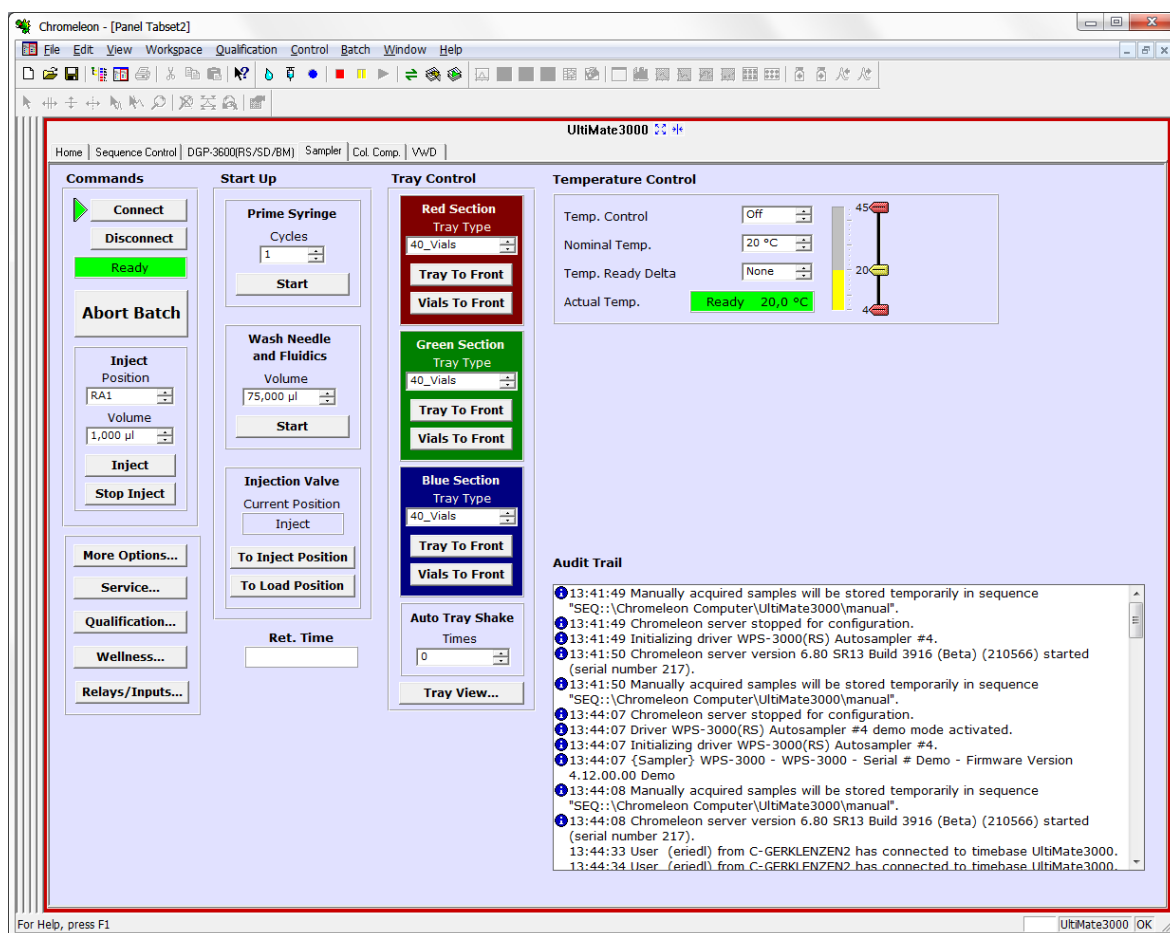

Fig. 27: Autosampler Control Panel on the Panel Tabset
Chromeleon creates centralized control panels, called panel tabsets (→ Fig. 27, page 74), for all timebases available on the Chromeleon server. A panel tabset provides control panels for the individual instruments in a timebase and, in addition, one or more panels for performing system-wide functions, for example, creating and running sequences. For more information about panel tabsets, see the *Chromeleon Help*.
2. On the **Panel Tabset** for your timebase, click the **Sampler** page (→ Fig. 27).